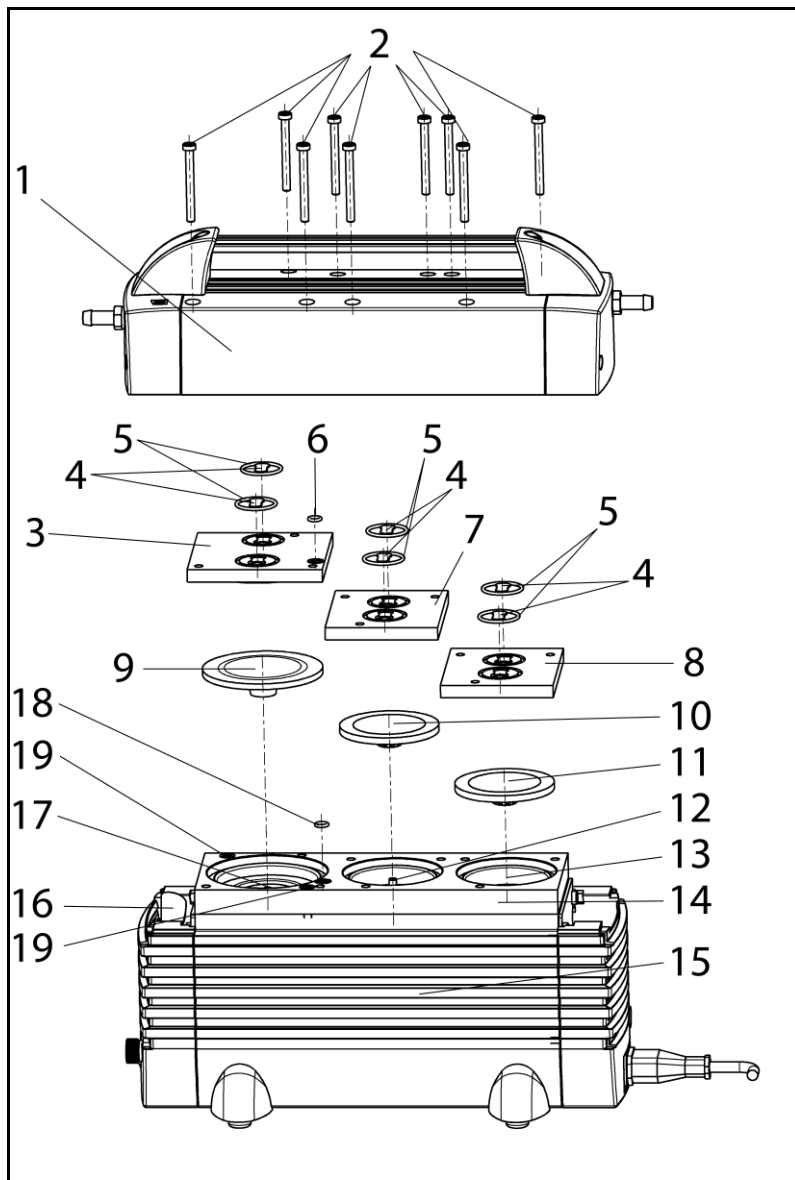

Fig. 6: Exploded drawing N 920 AP.18 / N 920 AP.29.18
1. Undo the nine screws (2) in the head cover (1) and lift the head cover off the pump housing (15) (see fig. 6).
2. Mark the position of intermediate plate (3) and adapter (14) relative to each other by a drawing line with a felt-tip pen. This helps avoid incorrect assembly later.
3. Mark the position of intermediate plate (7) and adapter (14) relative to each other by two drawing lines with a pencil.
4. Mark the position of intermediate plate (8) and adapter (14) relative to each other by three drawing lines with a pencil.
5. Lift the intermediate plates (3), (7) and (8) off the adapter.
- i** Upper and lower sides of the valve plates are identical. For correct position see fig. 6.
3. Lay the new O-ring (6) on the intermediate plate (3).
4. Place the intermediate plates (3), (7) and (8) on the adapter (14) in the position indicated by the drawing lines.
5. Place the head cover (1) on the pump housing (15); tighten the screws (2) hand tight, evenly and diagonally.